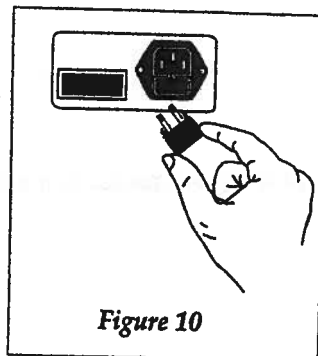

Figure 10
Step 4 Insert the fuse holder back into the unit. See Figure 10.